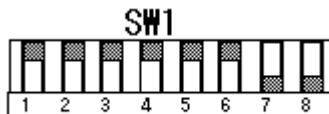

Figure 4.5 DIP Switch Settings
- (3) After setting the DIP switches as shown in figure 4.5 (1), enter Y.
- (4) If no error occurs, the following message is displayed:
- (6) After setting the DIP switches as shown in figure 4.5 (2), enter Y.
- (7) If no error occurs, the following message is displayed:
- (9) After setting the DIP switches as shown in figure 4.5 (3), enter Y.
- (10) If no error occurs, the following message is displayed: